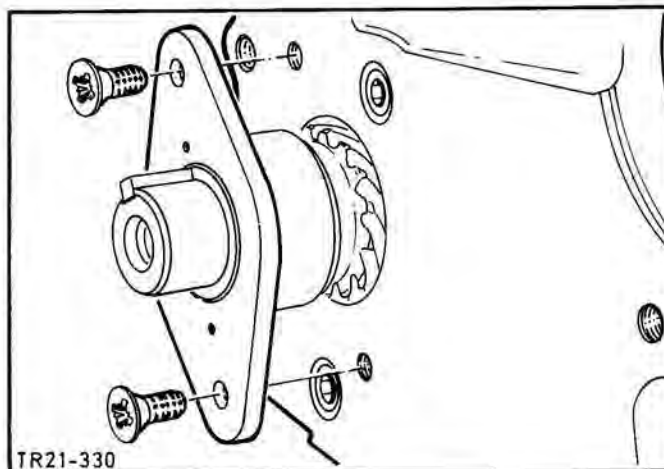

Fig.54. Install camshaft.
39. Install camshaft from front bearing end, Fig.54. Prior to fitting, slide spacer ring onto the camshaft with the chamfered side inwards and insert the parallel key. Screw the retaining plate in position. Tighten screws to specified torque.